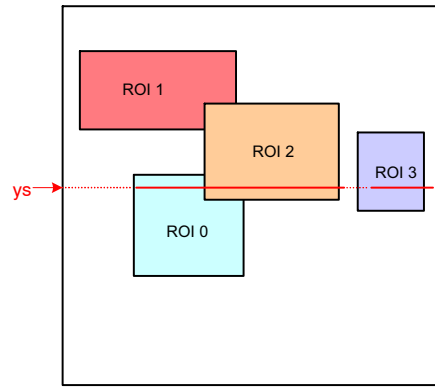

Figure 27. Scanning the Image Array with Four Windows
Figure 27 illustrates a practical example of a configuration with four windows. The current position of the read pointer (y_s) is indicated by a red line crossing the image array. For this position of the read pointer, three windows need to be read out. The initial start position for the x -kernel pointer is the x -start configuration of ROI0. Kernels are scanned up to the ROI2 x -end position. From there, the x -pointer jumps to the next window, which is ROI3 in this illustration. When reaching ROI3's x -end position, the read pointer is incremented to the next line and x_s is reinitialized to the starting position of ROI0.
- The read pointer is not necessarily incremented by one, but depending on the configuration, it can jump in y -direction. In Figure 27, this is the case when reaching the end of ROI0 where the read pointer jumps to the y -start position of ROI1